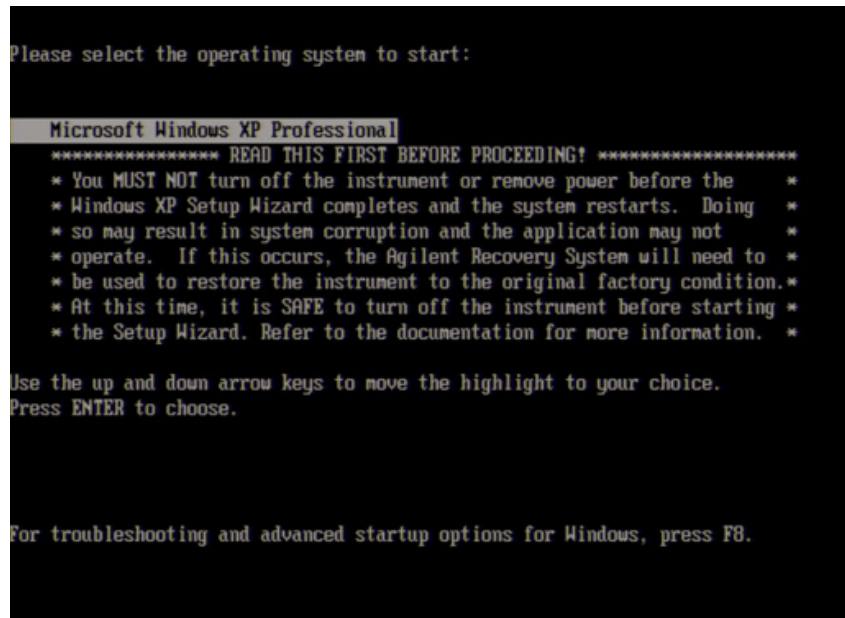

Figure 13 System start up screen in Windows XP Pro for Embedded Systems (2/2)
Step 3. The screen as shown in the Figure 13 appears. Press **[Enter]**.